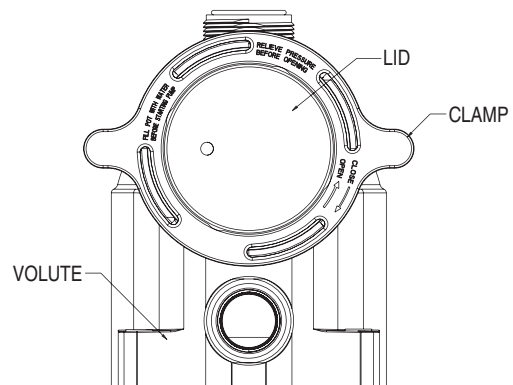

Figure 4.
10. Be sure the lid O-ring is properly placed. Seat the clamp and lid then turn clockwise until the handles are horizontal; see **Figure 4**.